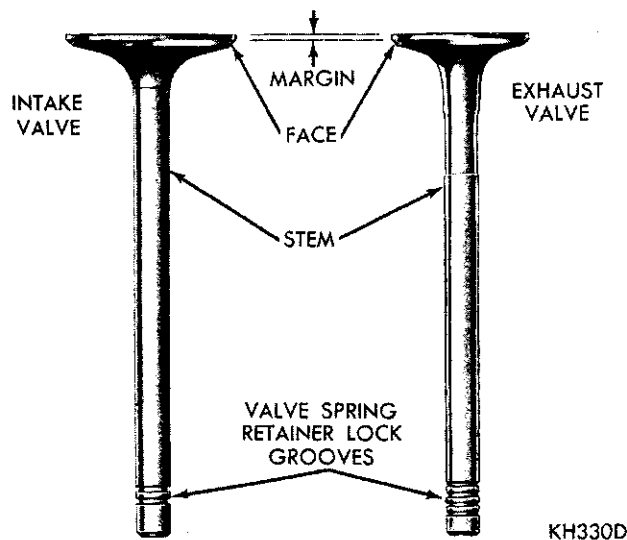

Fig. 14—Intake and Exhaust Valves
(2) Inspect the remaining margin after the valves are refaced (Fig. 14). Valves with less than 3/64 inch margin should be discarded.
(3) When refacing valve seats, it is important that the correct size valve guide pilot be used for reseating stones. A true and complete surface must be obtained.